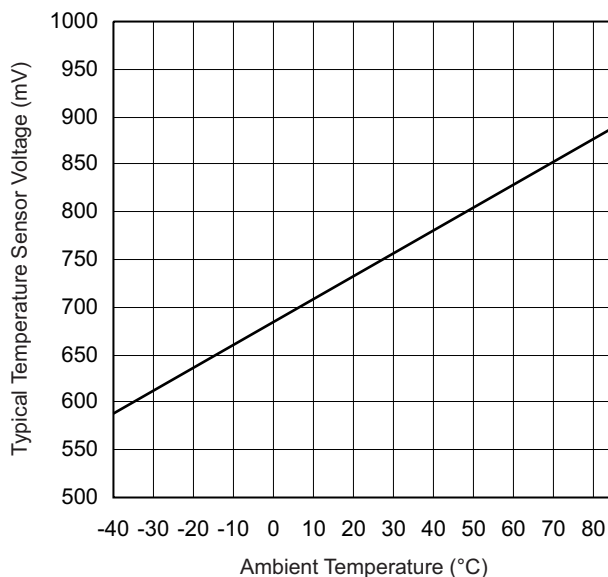

**Figure 5-16. Typical Temperature Sensor Voltage**
| $V_{SENSOR}$         | See (2) and Figure 5-16                                  | ADC12ON = 1, INCH = 0Ah,$T_A = 0^\circ\text{C}$                 | 2.2 V      |      | 680  |      | mV                   |